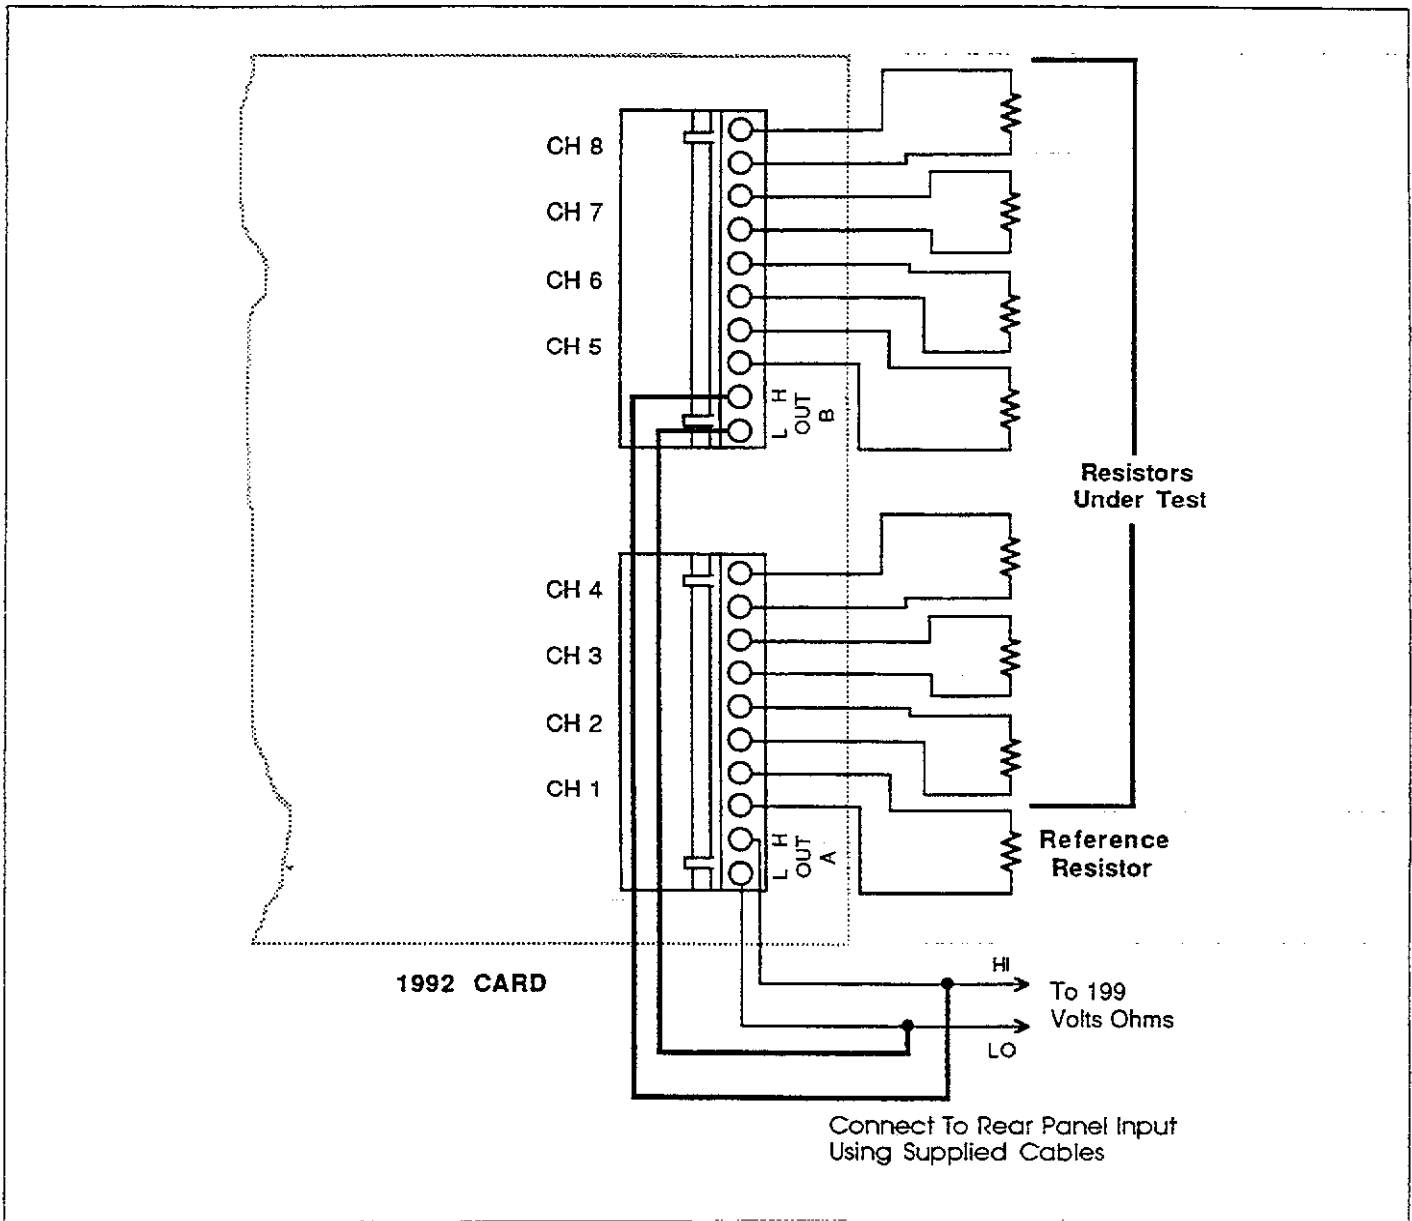

Figure 3-10. 2-Pole Resistor Test Connections
Typical connections for 2-pole and 4-pole modes are shown in Figures 3-10 and 3-11. The 4-pole mode is recommended for making measurements on the 300 Ω , 3k Ω , and 30k Ω ranges in order to attain rated accuracy. For the 2-pole mode, the reference resistor should be connected to channel 1 only; in the case of the 4-pole mode, the reference resistor is connected to both channel 1 and 5. The resistors being compared are connected to the remaining channels as indicated.
The scanner output connections also differ. For the 2-pole mode (Figure 3-10), OUT A and OUT B are strapped together (H to H, L to L) and then connected to the VOLTS OHMS terminals of the Model 199 (the rear panel terminals are most convenient for scanner use; just be sure the rear panel terminals are selected with the front panel switch). In the case of the 4-pole connections, OUT A is connected to the VOLTS OHMS terminals, while OUT B is connected to the OHMS SENSE terminals.
1. Connect the resistors to the scanner, as shown in Figure 3-10 or 3-11. For resistances below 30k Ω , the 4-pole mode is recommended for rated accuracy.